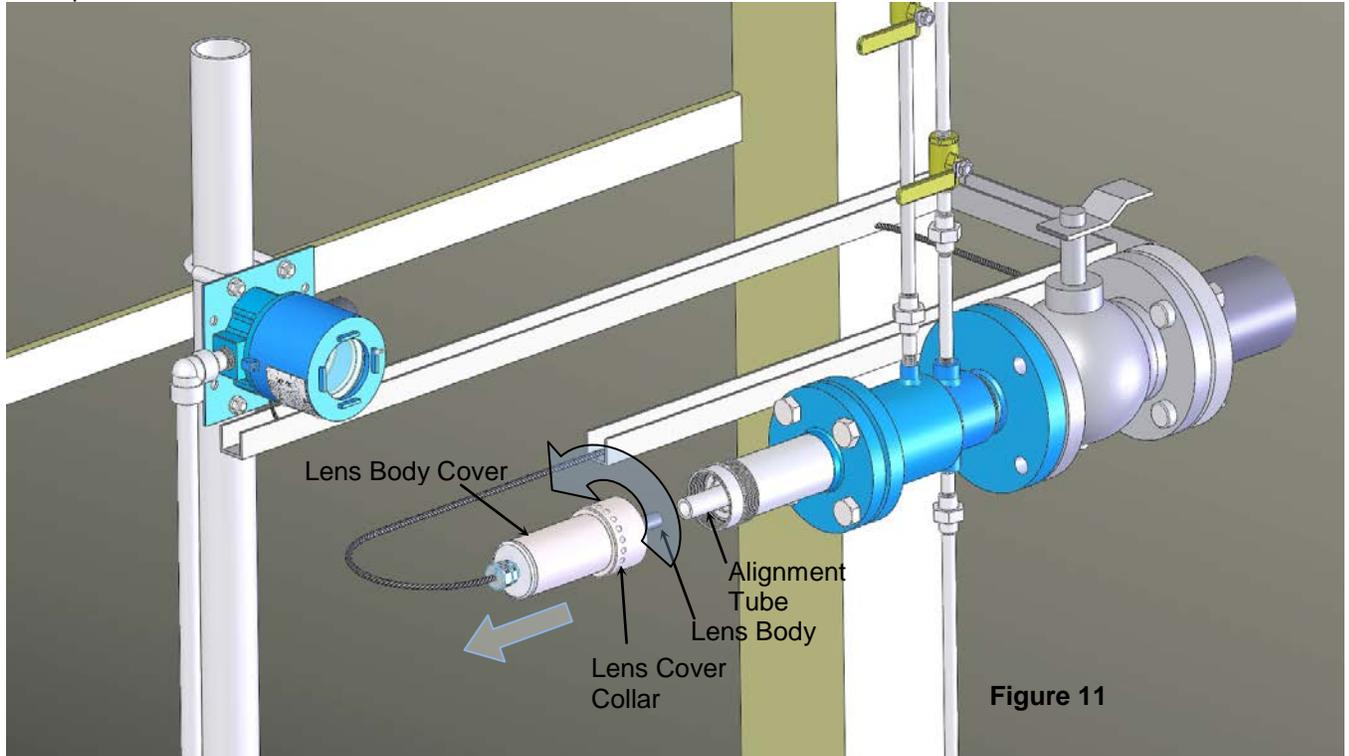

Figure 11
1. Unscrew the lens cover collar and remove the lens body cover as shown in Figure 11. Be careful not to allow the weight of the cover to damage the fiber optic cable.